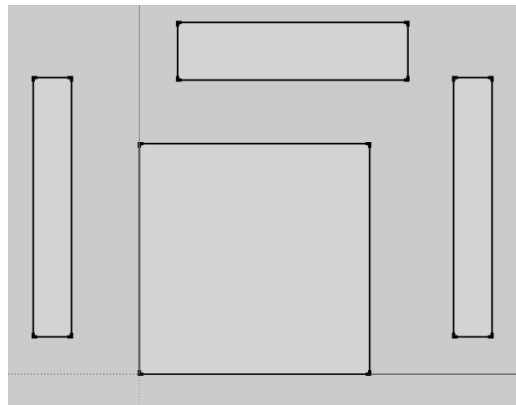

FIGURE 4-2.9 Creating the chair
29. Draw the backrest and armrests as separate rectangles, near the square (Figure 4-2.9).